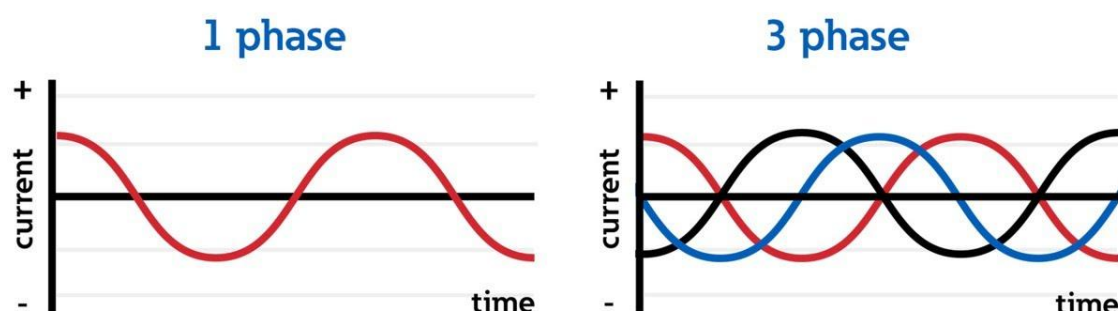

Figure 12: The difference electrical power between single Phase and Three Phase Systems
A three-phase electrical system differs from a single-phase system as it provides power through three separate alternating current (AC) waveforms that are 120 degrees out of phase with each other, while a single-phase system only uses one alternating current (AC) waveform, making three-phase systems more efficient for high-power applications such as large motors in industrial settings, whereas single-phase has one alternating current waveform is commonly used for residential power needs such as lighting and small home appliances; basically, three-phase electrical system distributes power more equally across multiple phases, resulting in reduced current fluctuations and more efficiently stable compared to single-phase electrical system see figure 12.